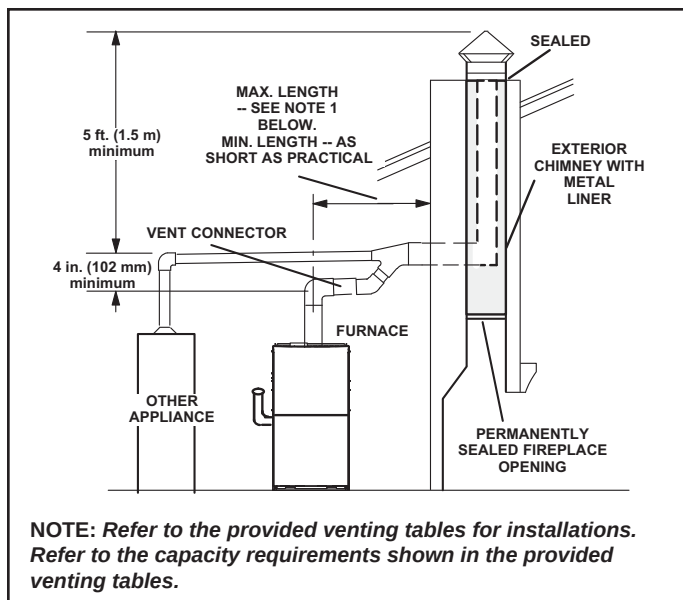
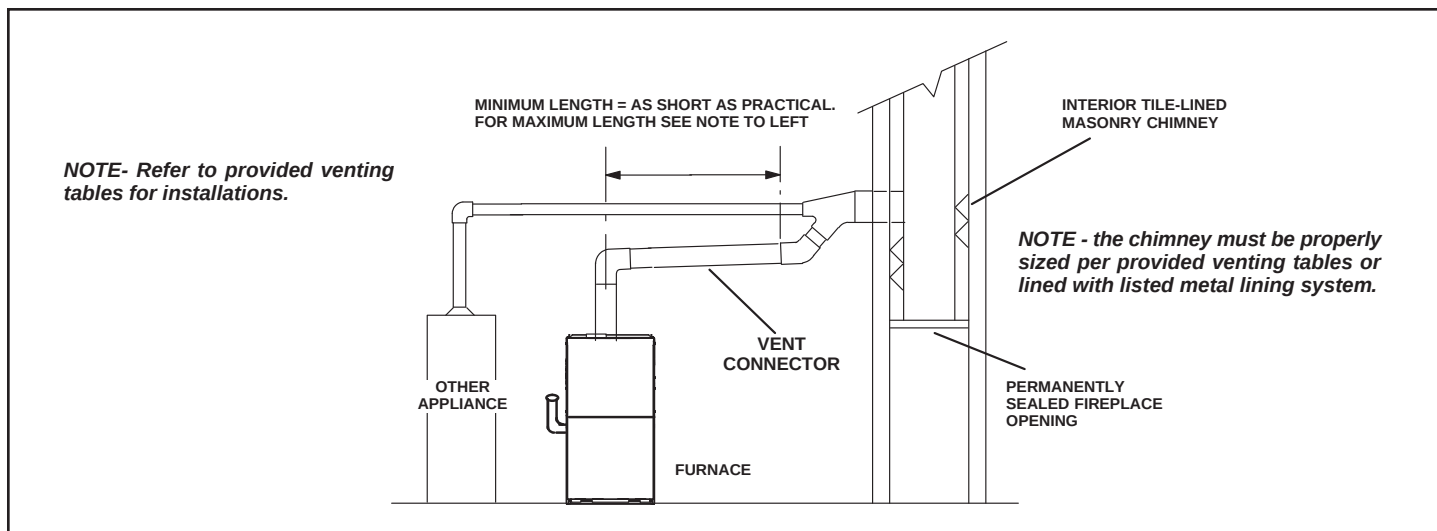

Figure 18. Common Venting Using Metal-Lined Masonry Chimney
Figure 20. Common Venting Using Tile-Lined Interior Masonry Chimney and Combined Vent Connector
- Masonry chimneys used to vent Category I central furnaces must be either tile lined or lined with a listed metal lining system or dedicated gas vent. Unlined masonry chimneys are prohibited. See Figure 18 and Figure 20 for common venting.